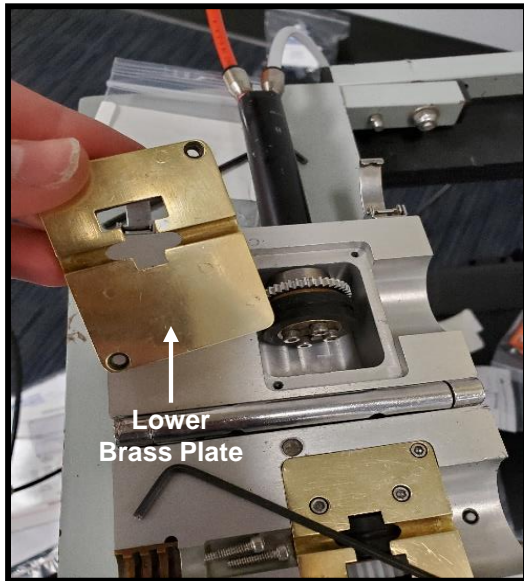

Figure 35
13.5.1.3 Carefully remove Lower Brass Plate. Do not force it. If a tight fit is encountered, very gently pry the plate out being extremely careful not to gouge, scratch or damage the brass plate. See Fig. 35.